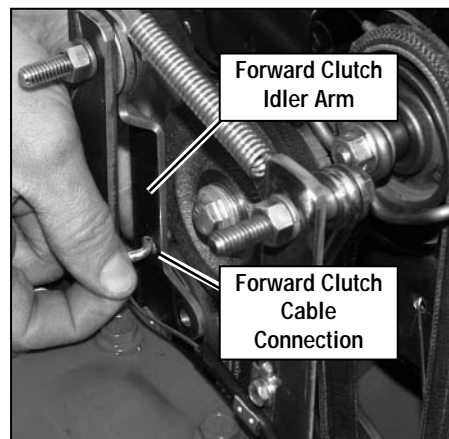

Figure 5-15
3. Disconnect the forward clutch cable from the forward clutch idler arm bracket (Figure 5-15). Note the hole from which you disconnect the cable. It is important that you reconnect the cable to the same hole.